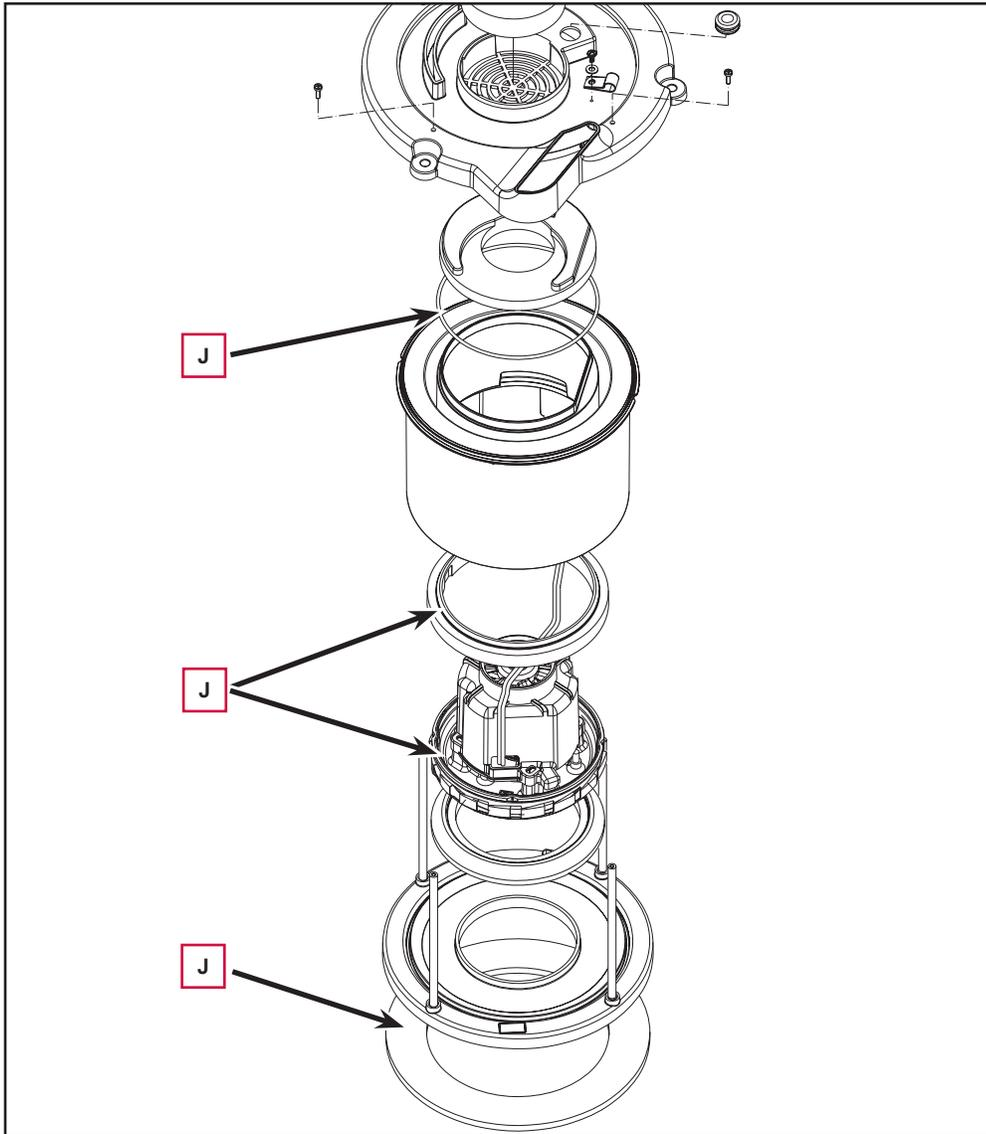

Figure 9
7. Clean the inside of the containers from any dirt that has settled and check all gaskets (J) (Figure 9) for wear; replace if necessary.